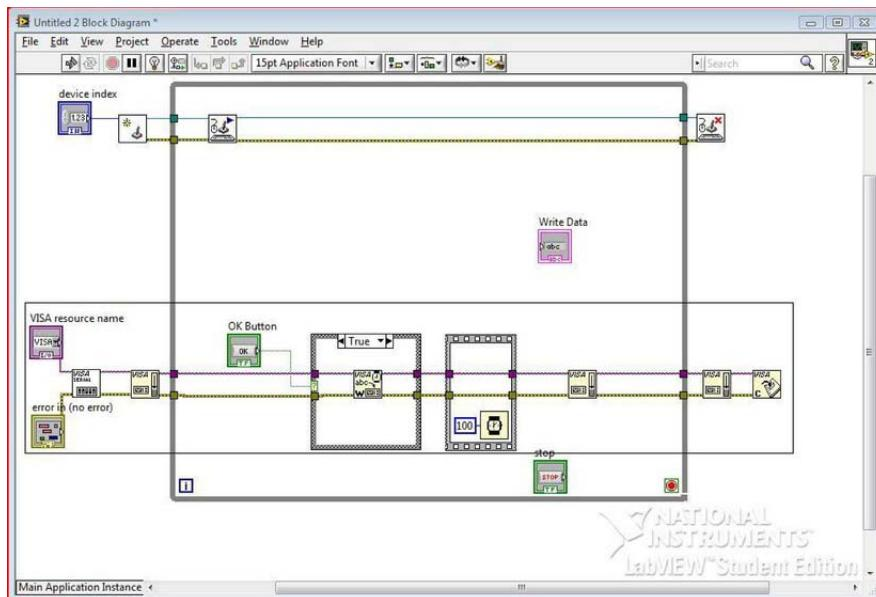

Figure 10-26. Add Serial Communication to the Block Diagram (part 1 of 2).
17. Right-click the VISA resource name terminal on the left side of the VISA Configure Serial Port Function; a pop-up menu will appear. Go to Create > Control on that pop-up menu, and a control will be created on the Block Diagram and the Front Panel. Figures 10-26 and 10-27 illustrate adding the Serial Functions to the Block Diagram.
18. Then, right-click the error on the left side of the VISA Configure Serial Port Function; a pop-up menu will appear. Go to Create > Control on the pop-up menu, and a control will be created on the Block Diagram and Front Panel. Figures 10-26 and 10-27 show the process of adding the error cluster to the Block Diagram.